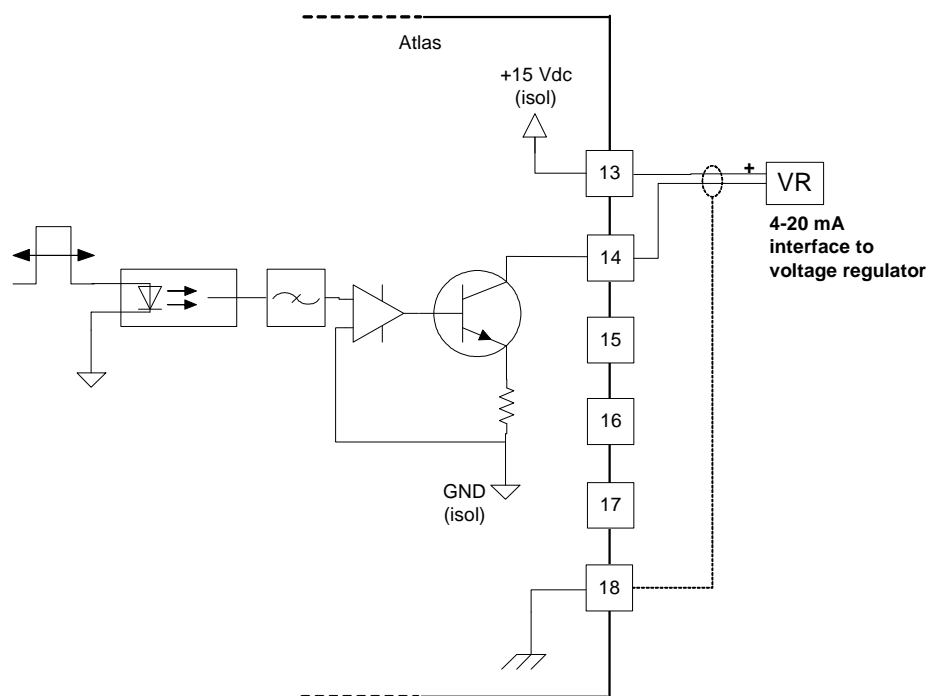

Figure 6-13. Wiring Example—Voltage Bias Output Interface
- Refer to Figures 6-13 and 6-14 for Voltage Bias Output wiring. Wires must be shielded.